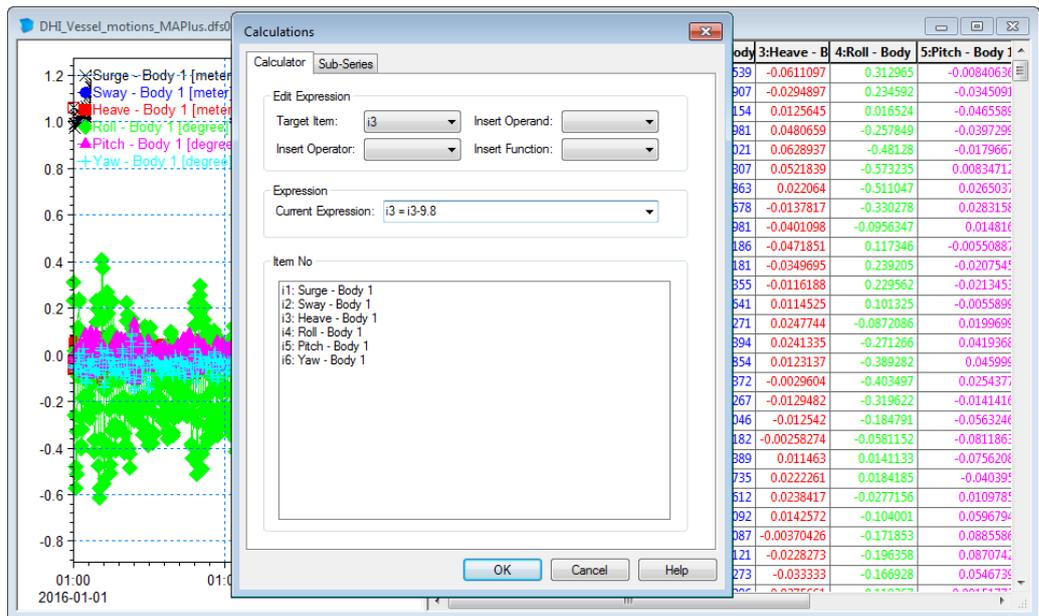

Figure 2-31 Modifying position of vessel to accommodate local coordinate system of 3DSolid.
2. Subtract 9.8 m from the third item (Heave) to account for the Draft of the vessel (as defined in Table 2.1), see Figure 2-31. Press OK and save and close the file 'GenerateTSDData.mzt'.